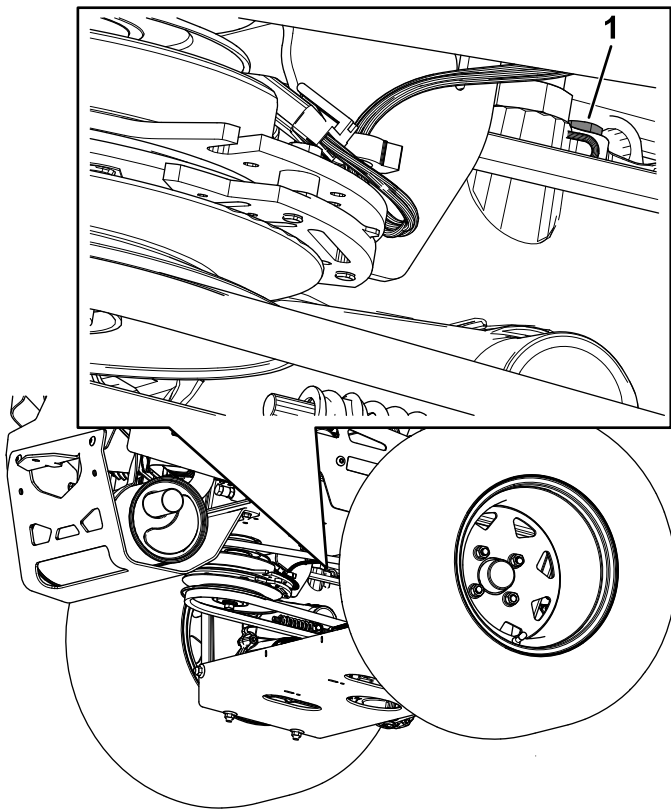

Figure 91
- **For ZT 5400 Hydros**, use a 7/16-inch wrench to access the vent plug from underneath the machine (Figure 91).